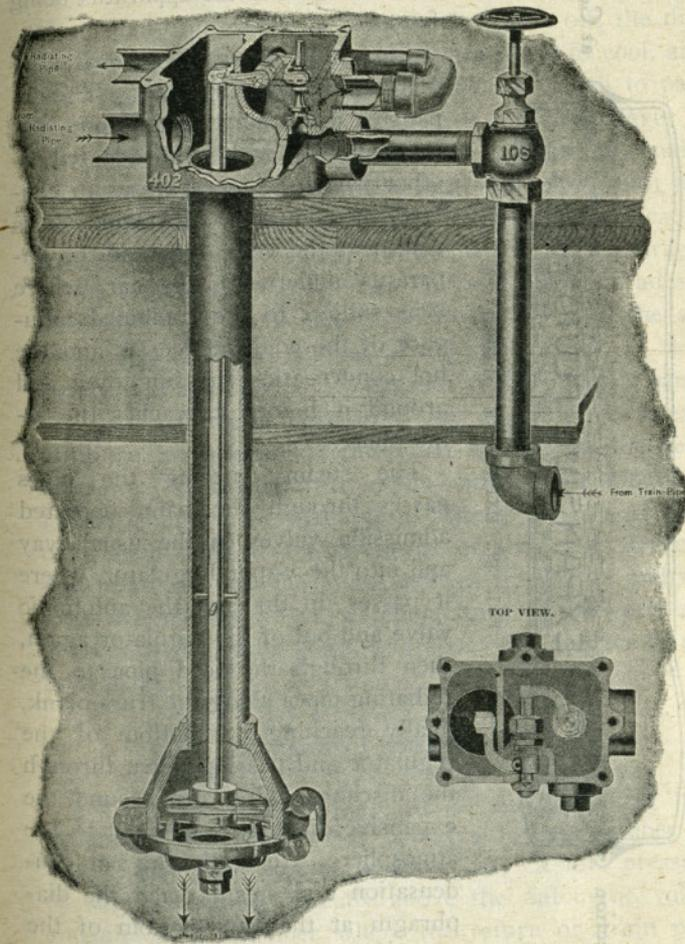
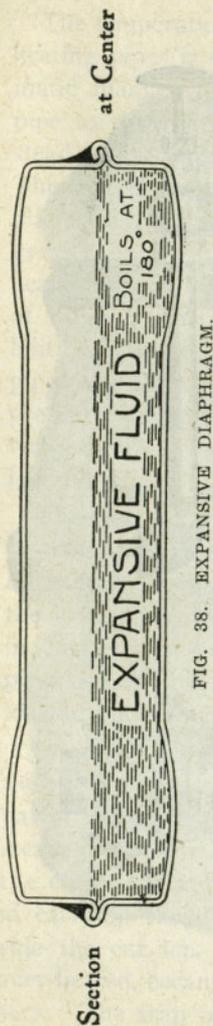

FIG. 37. VAPOR HEATING—SECTIONAL VIEW.
FIG. 38. EXPANSIVE DIAPHRAGM.
Figure 37 shows a sectional view of the piping arrangement. The expansive diaphragm (see Figure 38) is combined with and adapted to other parts of the apparatus to control the admission of steam. It is placed at the very outlet of the apparatus underneath the car, where it is subject to the combined influence of the cold outside air and the hot condensation pressing over and around it before it reaches the atmosphere.
closing the supply of steam to the radiating pipes at the inlet of the Vapor Regulator. The instant the supply of steam to the radiating pipes is thus shut off, the diaphragm in the outlet of the apparatus starts to cool, and contracts just enough to permit sufficient steam to pass the automatic inlet valve to make up for whatever is lost in condensation in the radiating pipes and still maintain a temperature of 200 degrees at the outlet point underneath the car at which the diaphragm is located. Less than 200 degrees temperature around the diaphragm at the bottom causes it to contract and open the admission valve until sufficient steam is passing into the apparatus to give 200 degrees at the very outlet. A temperature of much over 200 degrees at the outlet expands the diaphragm and cuts down the admission of steam until the temperature at the outlet reaches 200 degrees. Therefore the temperature of the outlet of the apparatus (which contains the diaphragm, Figure 38) is automatically maintained at a temperature of about 200 degrees, and necessarily all the pipes between this outlet and the inlet are maintained at a temperature of between 200 degrees at the outlet point, and about 212 degrees at the inlet point.
*The Expansive Diaphragm.*—Figure 38, already referred to, is round, being about four inches in diameter and three-quarters of an inch thick, is made of phosphor bronze, and is filled about half full of a mixture of